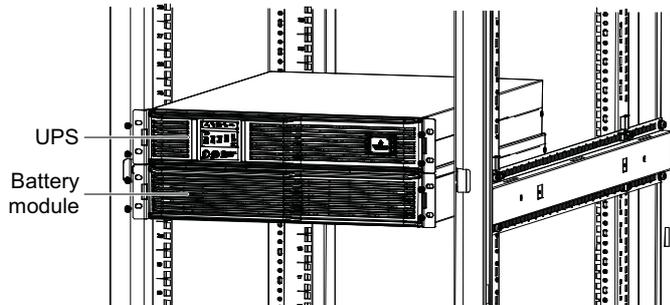

Figure 2-12 Installation of UPS with battery module
The installation method of the battery module is the same as that of the UPS. Repeat the preceding procedures to install and fix the battery module and UPS into the rack one by one, as shown in Figure 2-12.
- Install the battery modules first, start the installation from the bottom, and then place the UPS onto the top, as shown in Figure 2-12.